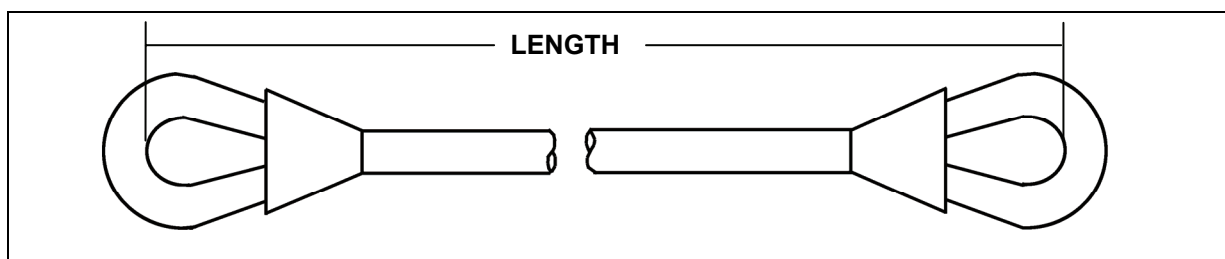

Figure 6-6. Sling Leg Measurement
- Nylon Rope Assembly.** The nylon rope assembly is made from double-braided nylon rope with an eye splice at each end. Cutting and splicing of the rope is carefully controlled to produce an assembly which is approximately 12 feet long. During manufacture, the outer braid is covered with a liquid nylon which, when dry, provides protection against scuffing and shields the rope against ultraviolet radiation. This process and other environmental conditions during shipment and storage can result in considerable shrinkage in the rope assembly length. Much of this shrinkage is temporary and the specified length should be restored with use. To ensure proper load distribution, the variation in length of the rope legs used in a sling assembly depends upon the load configuration and should not exceed the guidelines in Table 6-2 and Paragraph 6-3e. Individual sling leg length is measured from inside of one eye to the inside of the other eye, while being manually pulled taut (Figure 6-6). The 10,000-pound capacity sling set has olive drab colored ropes while the 25,000-pound capacity sling set ropes are black. Each sling leg assembly has one-fourth of the capacity of the complete sling set. Therefore, the capacity of one sling leg from a 10,000- and 25,000-pound sling set is 2,500 and 6,250 pounds, respectively. Outer jacket yarns in the olive drab 2,500-pound capacity rope are identified by a braided strand about 3/32 inch in diameter. In the black 6,250-pound capacity rope, yarns are about 1/8 inch in diameter. An additional polyurethane coated outer braid is used as a thimble at each eye splice to protect the nylon rope from cuts or abrasion. Polyurethane is also potted into the V-shaped